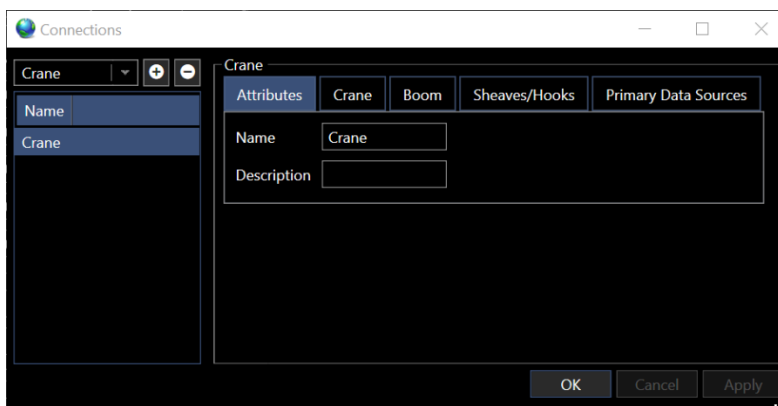

FIGURE 15-29 CONNECTIONS - CONFIGURE CRANE DIALOG
- a. **Attributes Tab** (see Figure 15-29)